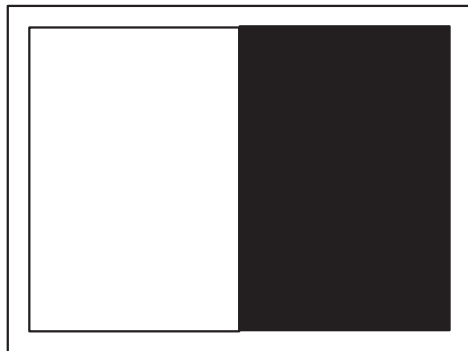

Fig. 6-4-7 LCD Monitor Screen
- 3) When the DVD video camera/recorder has shifted to the test mode, the LCD screen will be black and white (see Fig. 6-4-7), and the LCD ADJUSTMENT MENU screen will appear on the PC monitor screen.